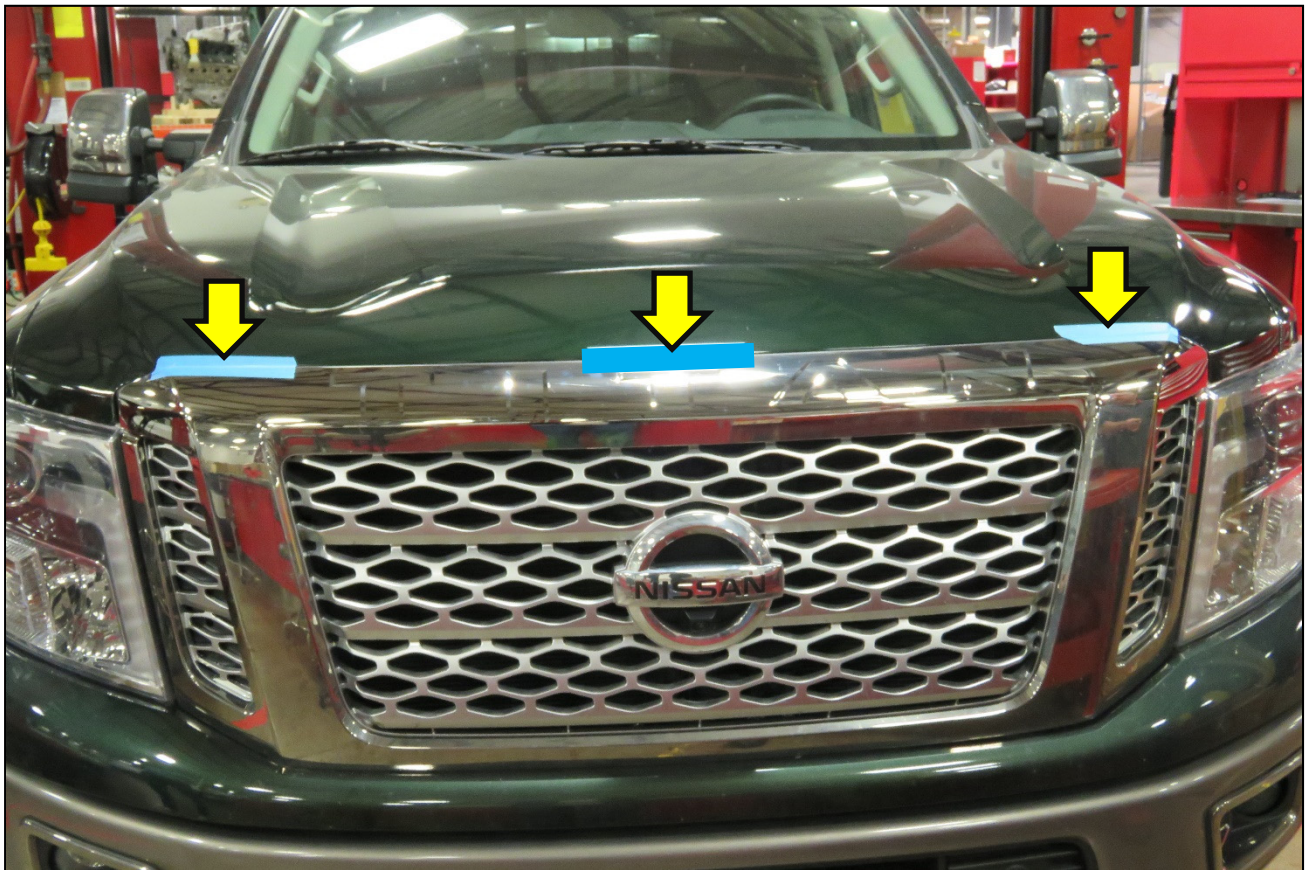

Figure 3
10. Place three sections of painters tape over the gap between the grille and the hood at the three locations as shown in Figure 3. Ensure the tape is applied completely flat with no wrinkles.